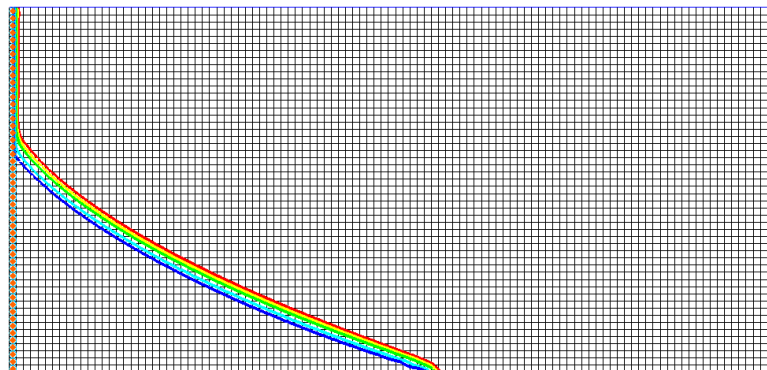

Figure 10 Time step 3 (after 10 minutes)
2. Select time step 3 (value of “10.0”) in the time step window (Figure 10).